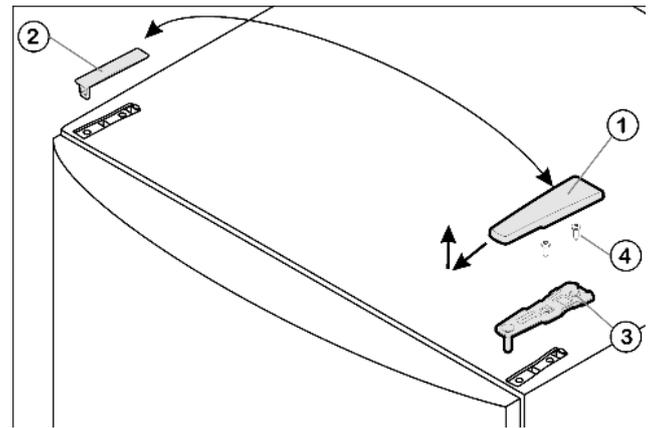

Fig. 5
- ▶ Pull off the cover Fig. 5 (1) forwards and upwards.
- ▶ Lift off the cover Fig. 5 (2).
- ▶ Unscrew the upper turn hinge Fig. 5 (3) (2x Torx® 25) Fig. 5 (4) and lift it off.
- ▶ Insert the upper turn hinge Fig. 5 (3) in the door on the new hinge side.
- ▶ Screw the upper turn hinge **firmly** into place (**with 4 Nm**) (2x Torx® 25) Fig. 5 (4). Possibly make preliminary holes with a bradawl or use a cordless screwdriver.
- ▶ Apply the cover Fig. 5 (1) and cover Fig. 5 (2) to the opposite side from the outside and snap them into place.